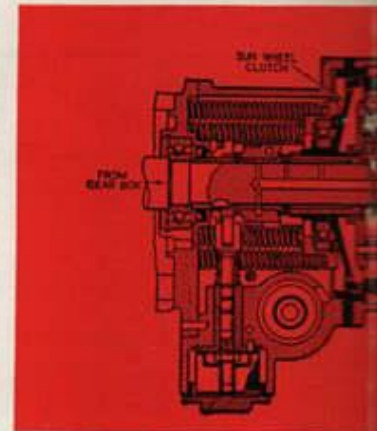

Fig. 2
When in direct top gear (see Fig. 2) the overdrive is, of course, inoperative. The drive from the gearbox to the propeller shaft is taken through the rollers (A) from the gearbox main driving shaft (B) to the outer member of the uni-directional clutch (C), and so direct drive is transmitted.